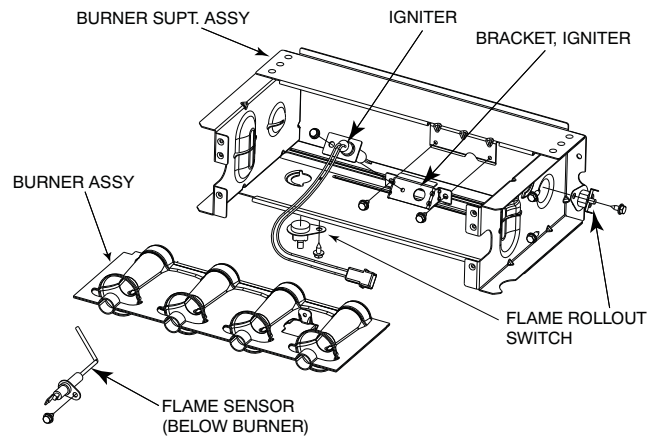

Fig. 71 – Burner Assembly
6. Remove screws attaching burner assembly to cell panel. See Fig. 71.